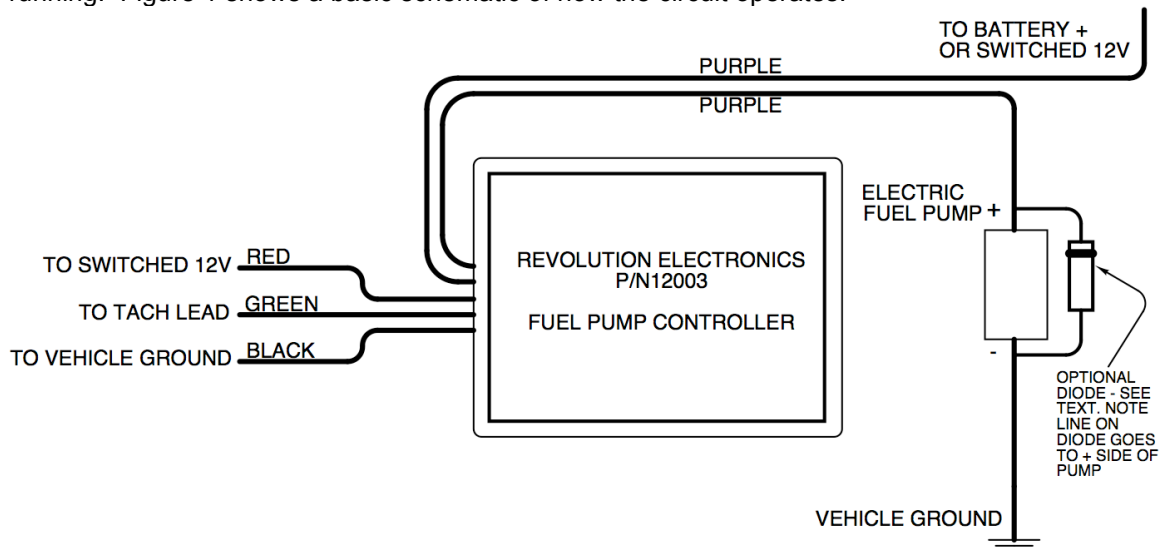

Figure 1
The Electric Fuel Pump Controller will energize the fuel pump for three seconds when power is first applied. After these first three seconds, the fuel pump is energized only when the engine is running. Figure 1 shows a basic schematic of how the circuit operates.
- Install the optional diode across the fuel pump terminals as shown in figure 1.